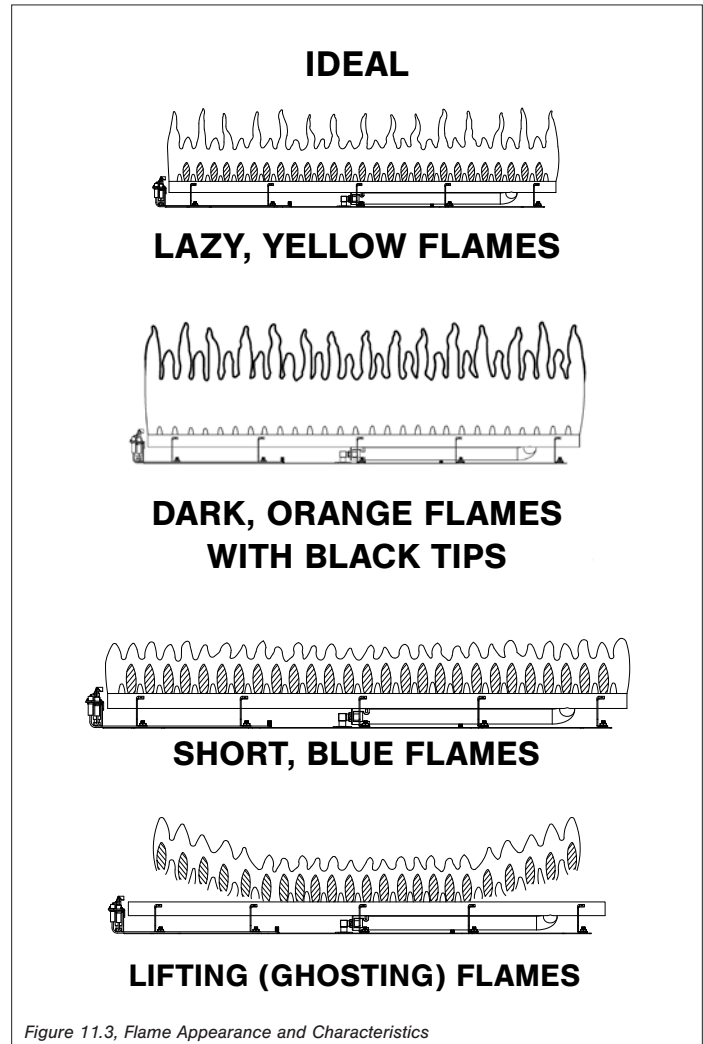

Figure 11.3, Flame Appearance and Characteristics
- Visually check pilot light and burner flame pattern when in operation. Flames should be steady, not lifting or floating. Refer to Section Figure 11.3, Flame Appearance and Characteristics on page 38.